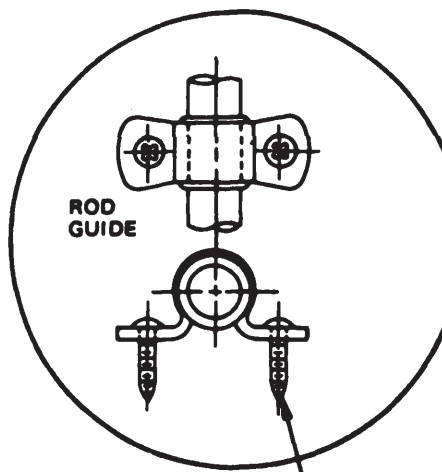
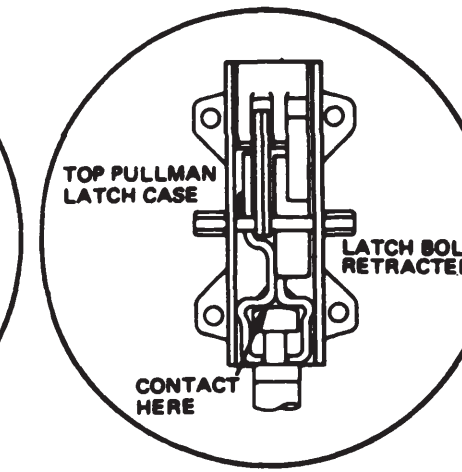

FIG. 3
FIG. 4
- Attach top rod with rod guide, see Fig. 3. Adjust rod length so connector fits as shown. (Fig. 4 and 5.)